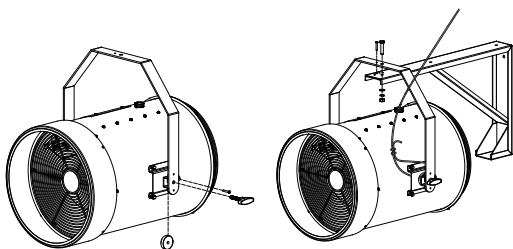

Figure 5
2. Assemble hanger to heater as shown in Figure 5. Install the drum knob and stopper screws as shown.